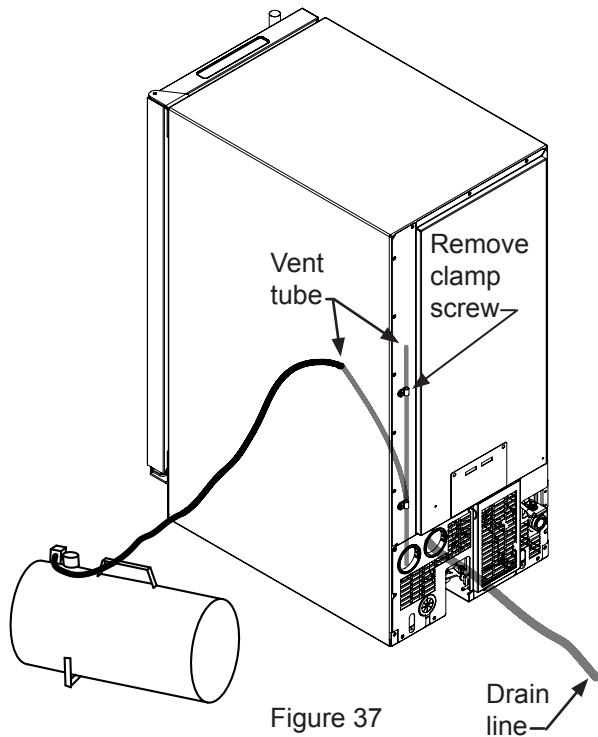

Figure 37
15. Apply air pressure (approximately 10 psi) to the end of the vent tube which will purge the remainder of the water from the drain pump and the drain line. (See Figure 37).